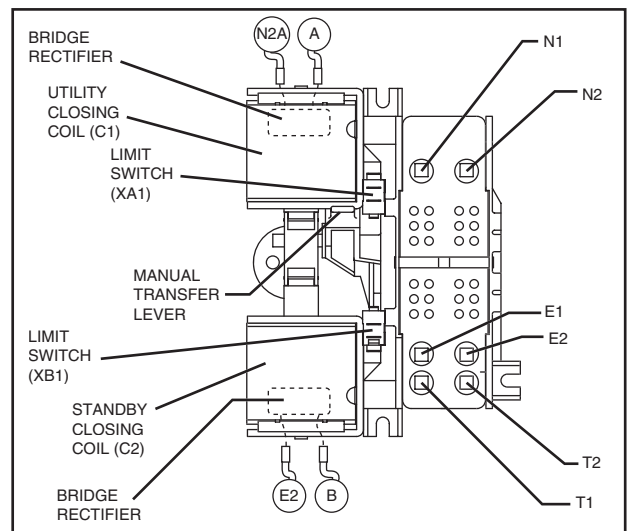

Figure 4. The "V-Type" Transfer Mechanism
See Figure 4. This coil is energized by rectified utility source power, to actuate the load contacts to the "Utility" power source side. When energized, the coil will move the main contacts to an "overcenter" position. A limit switch will then be actuated to open the circuit and spring force will complete the retransfer to "Standby". A bridge rectifier, which changes the utility source alternating current (AC) to direct current (DC), is sealed in the coil wrappings. If coil or bridge rectifier replacement becomes necessary, the entire coil and bridge assembly should be replaced.
Transfer relay operation is controlled by a control circuit board mounted on the standby generator set. The standby system installer must interconnect suitable wiring to terminals 23 and 194 of a transfer switch terminal block. He must interconnect that wiring with identically numbered terminals in the generator's control board. See Section 1.2, Figure 4.